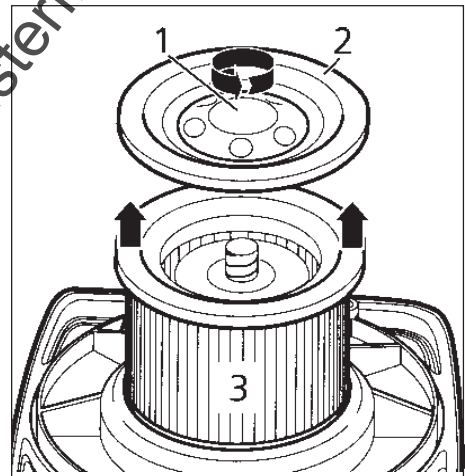

Figure 10
2. Remove the machine top section from the dirt tank and place to one side with the filter element facing upwards (Figure 10).
3. Unscrew the filter retaining nut (1) and remove together with the retaining washer (2).
4. Pull off the filter element (3).